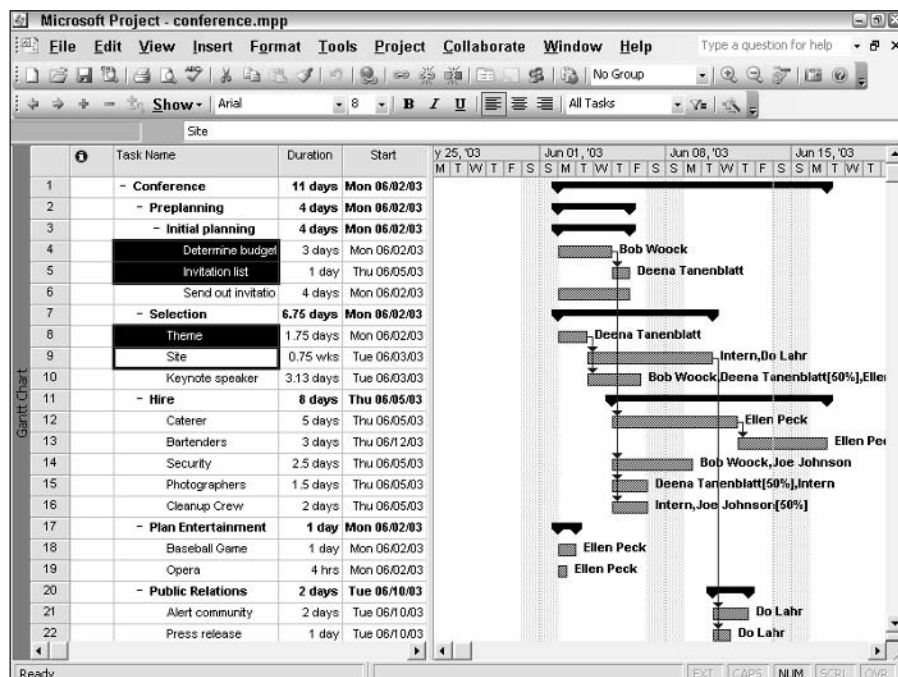

Figure 12-16: Selecting tasks to update.
2. In the Task Name column, select the tasks that you want to update. For example, Figure 12-16 shows three tasks selected for updating.